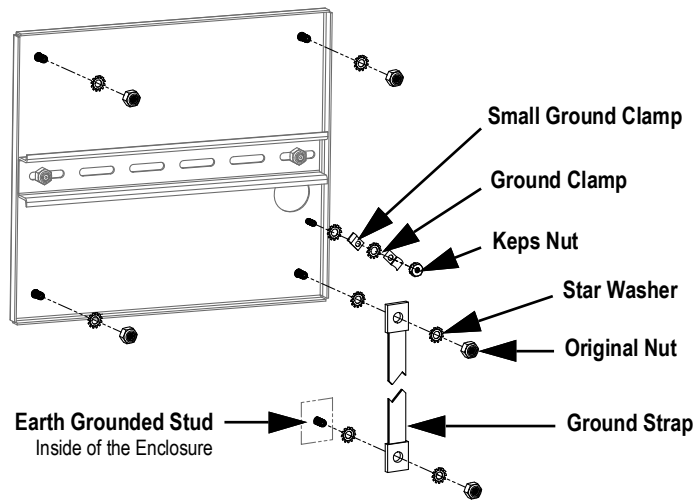

Figure 2-29. Backplate Shield Grounding
3. Secure the other end of the ground strap to an earth grounded stud inside of the enclosure with star washers on either side of the ground strap, see Figure 2-29. Make sure there is an appropriate amount of slack in the grounding strap for opening and closing the enclosure door.
NOTE: Ensure the small ground clamp is installed first then install the ground clamp, see Figure 2-29 on page 36.